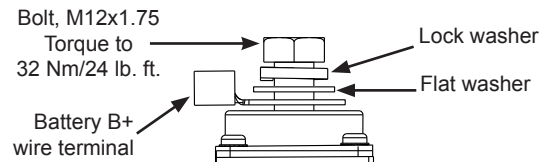

Figure 2: B+ Terminal Hardware Stacking Order
5. Connect vehicle B+ cable to alternator B+ terminal. Install hardware on B+ terminal in stacking order shown in Figure 2. Torque to 32 Nm/24 lb. ft.